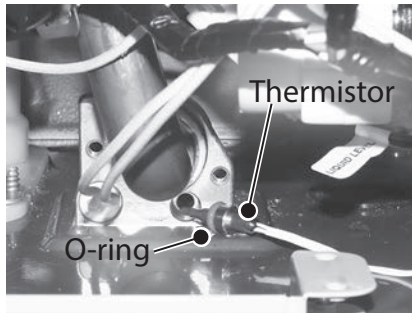

Figure 74 - Thermistor O-ring location
- 18** Locate the new thermistor and O-ring provided in the kit. Install O-ring on the thermistor. See Figure 74.